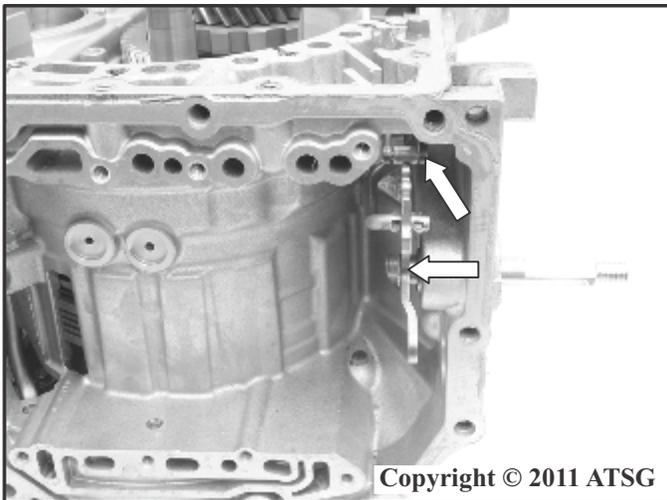

Figure 39
48. Lift the manual valve detent spring upward away from the manual valve detent lever and slide the detent lever in the direction of the arrow as shown in Figure 39.
49. Rotate the manual valve detent lever forward in order to disengage the parking pawl actuator rod and remove the actuator rod from the manual valve detent lever then remove the actuator rod from the transmission as shown in Figure 39.
50. Remove the manual valve detent lever assembly from the case in the direction of the arrow as shown in Figure 39.